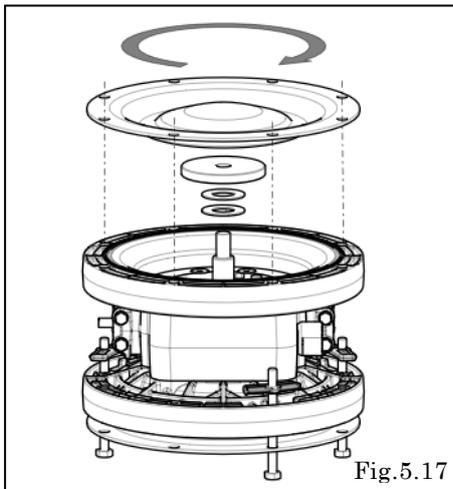

Fig.5.17
- Rotate the diaphragm clockwise by hand until it's tightened [Fig.5.17].